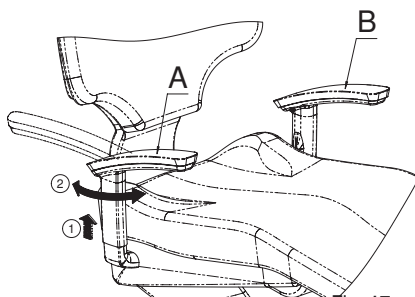

Fig. 17
To rotate the optional armrest (A), it must be pulled upwards (kept in its housing) until the rotation mechanism is released, allowing it to be turned until reaching the track limit where it stops. To return the armrest to its initial position, simply lift it and turn it inside until it locks automatically (Fig. 17).